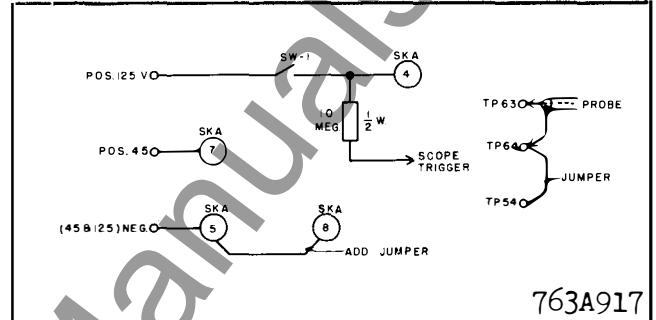

Fig. 12. Test Connections for the Transient Blocking Unit of the Type SKA Relay.
1. Make the connections shown in Fig. 12.